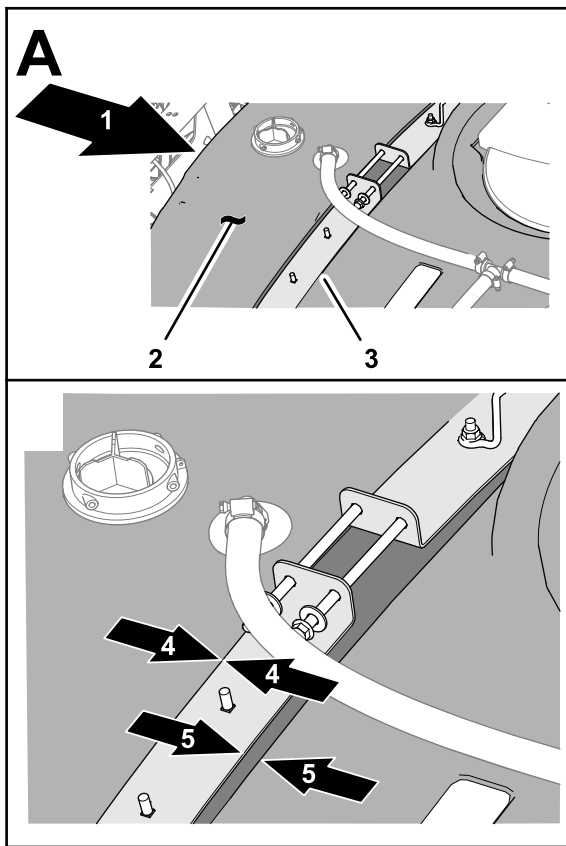

Figure 8
- Move the spray tank forward until the straps align flush with the rearmost shoulder of the strap relief molded into the tank (**Figure 8**).